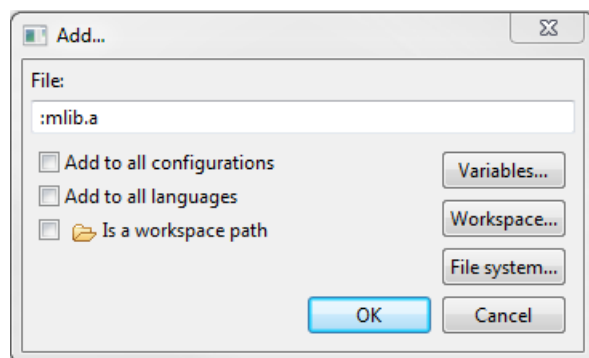

Figure 1-12. Library file inclusion
17. Type the following into the File text box (see Figure 1-12): :mlib.a